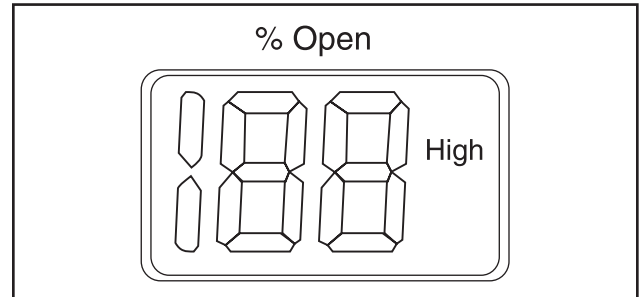

Figure 20
- **High** represents that ICAD is operating the ICM valve like an ON/OFF solenoid valve with high speed according to a digital input signal (Figure 20).